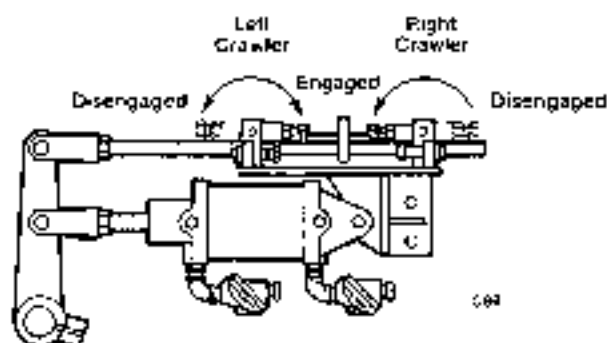

Figure 9 Steering Half Locks
75. Half lock controls (past production) (Figure 9) —Stop flipped **INWARD**Stop flipped **OUTWARD**: